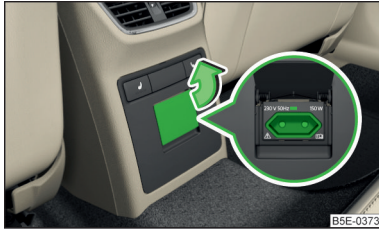

Fig. 99
The socket is located in the rear centre console » Fig. 99.
- Open the cover in the direction of the arrow » Fig. 99.